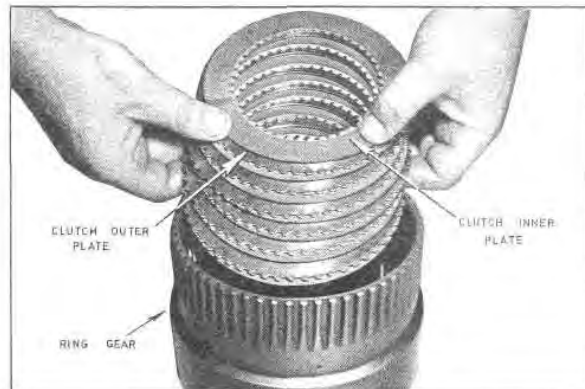

Fig. G55 — Install the Forward Clutch Plates
13. Using seven (7) lubricated inner clutch plates and six (6) lubricated outer clutch plates, arrange and assemble as shown in Figure G55.